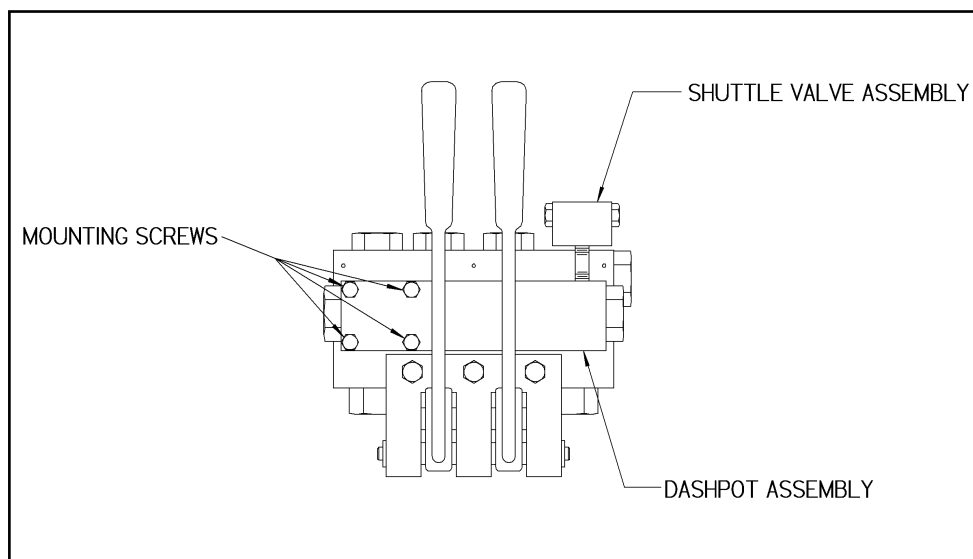

Figure 1: View of Poppet Block with Dashpot
3. Remove the four mounting bolts from the left side of the Dashpot and remove the Dashpot, also remove the two o-rings that are between the Dashpot and the Poppet Block. (See Figure 1).